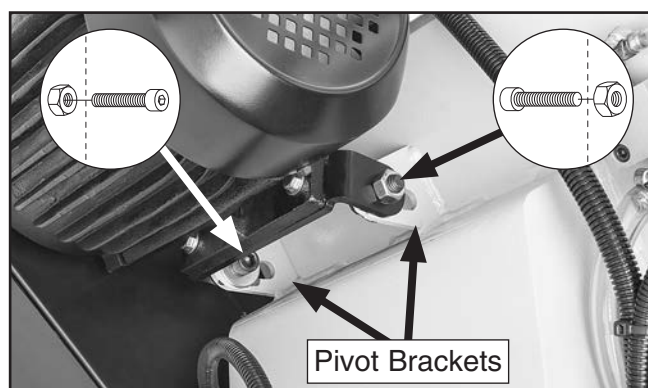

Figure 75. Motor pivot bracket location.
3. Loosen cap screws and hex nuts on lower motor pivot brackets (see **Figure 75**).